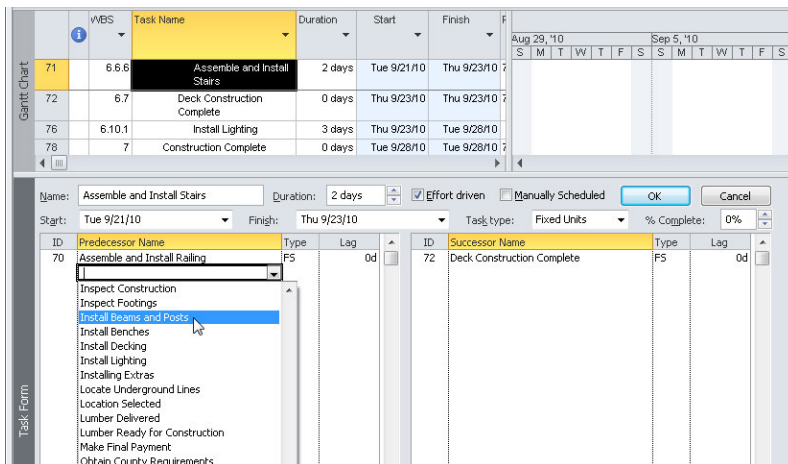

FIGURE 6-17 Display predecessors and successors in the Task Form to simplify working with task dependencies.
4. To add a link to a new predecessor, click the first blank Predecessor Name cell in the Task Form. Click the down arrow that appears, and then choose the name of the new predecessor, as shown in Figure 6-17.